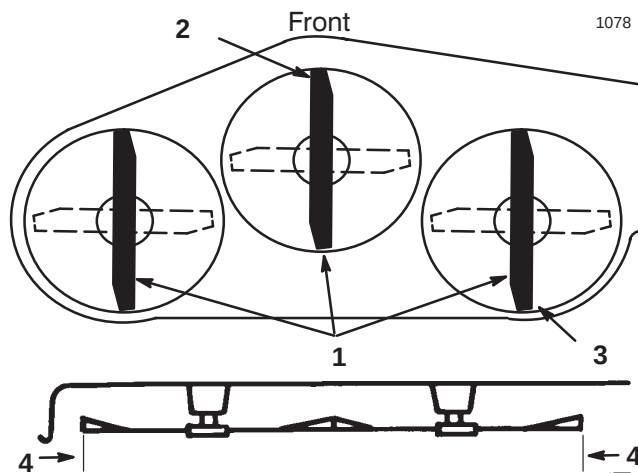

Figure 39
5. Set the height-of-cut at 3 in. (76 mm) and carefully rotate the blades so they are facing front to rear (Fig. 39).
6. Measure between the tip of the front blade (Fig. 39) and the tip of the rear blade to the flat surface. If the front blade tip is not 1/16–5/16 in. (1.6–7.9 mm) lower than the rear blade tip, adjust the front trunion rods.
9. After adjusting both trunion rod yokes evenly, secure the yokes with the hairpin cotters. Check the front-to-rear level again. Continue adjusting the yokes until the front blade tip is 1/16–5/16 in. (1.6–7.9 mm) lower than the rear blade tip (Fig. 39).